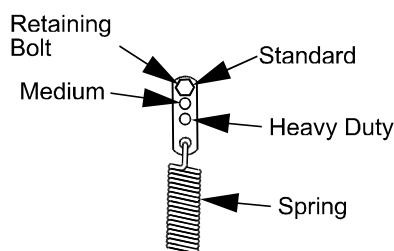

FIGURE 17
- b) For a heavier drive setting, relocate the spring anchor link to either the "medium" or "heavy duty" positions as shown in Figure 17. The spring anchor links are attached to the upper rear corner of the hydro drive shields on the left and right hand sides of the machine.